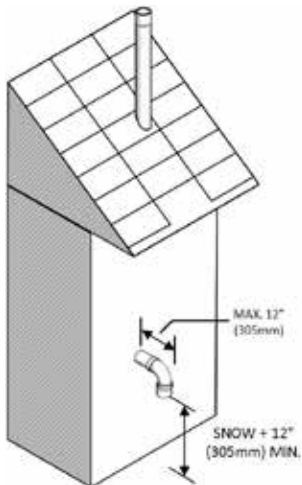

Figure 9: Rooftop vent terminal configurations
- The air intake pipe may terminate on the side wall of the building as long as the air intake terminal is turned down and the side wall of the building is not exposed to large wind loads i.e.,: prevailing wind (see Figure 9).
- You must maintain at least the minimum separation of exhaust vent termination from unit's intake air as illustrated in figures 9, 10, 13 and 15. Failure to do so can result in a dangerous situation where exhaust gases are pulled in with combustion air. Damage to the unit can result from a failure to maintain these separations. Improper installation will void the warranty.